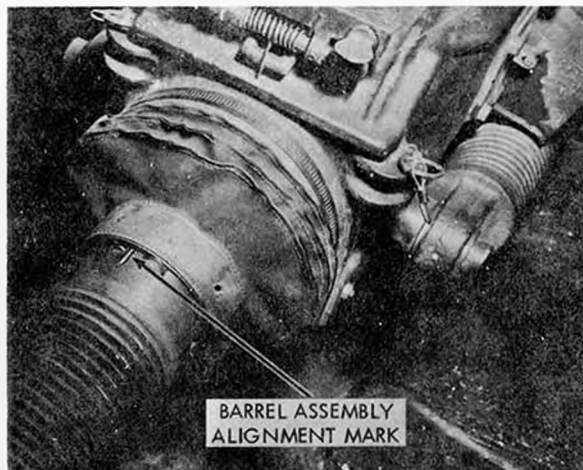

Figure 17. Barrel assembly positioned for reassembly to receiver (alignment mark up).
f. To install barrel, align mark on barrel with mark on receiver. Insert barrel and turn it clockwise until engaging retaining latch (fig 17). Insure barrel is locked to receiver by attempting to rotate barrel in both directions without depressing barrel release latch.